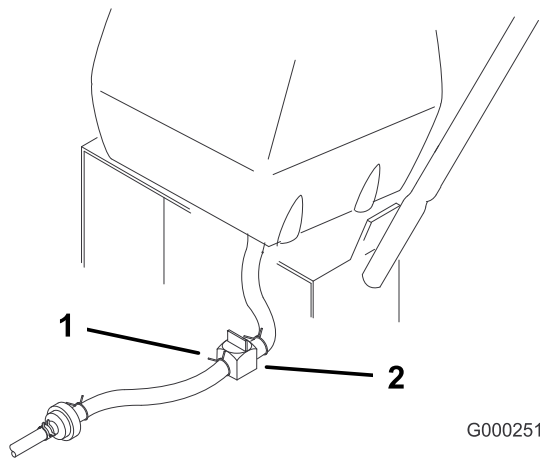

Figure 35
2. Close the fuel shut-off valve at the fuel tank (Figure 35).
3. Squeeze the ends of the hose clamp together and slide it up the fuel line away from fuel filter (Figure 35).
4. Pull the fuel line off the fuel filter (Figure 35). Open the fuel shut-off valve and allow the gasoline to drain into a gas can or drain pan.
3. Close fuel shut-off valve at fuel tank (Figure 35).
7. Open fuel shut-off valve at fuel tank (Figure 35).